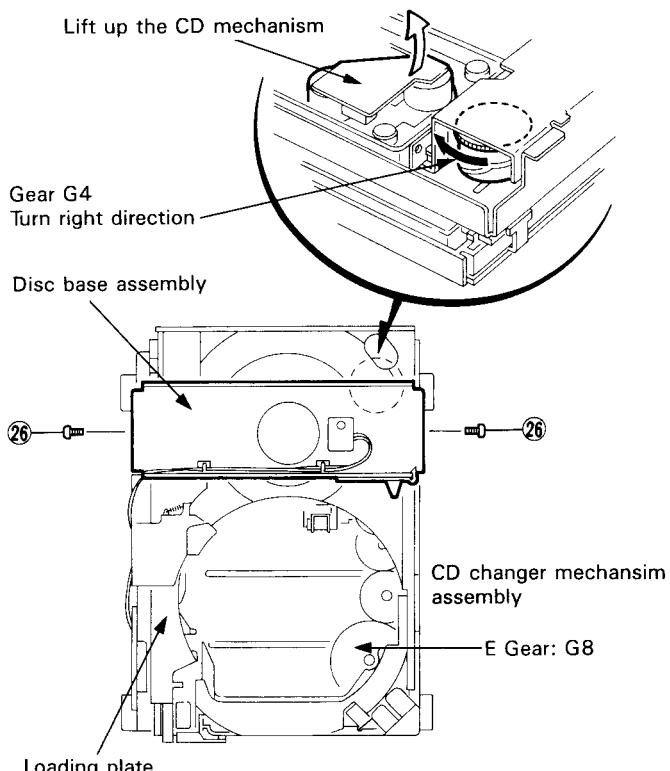
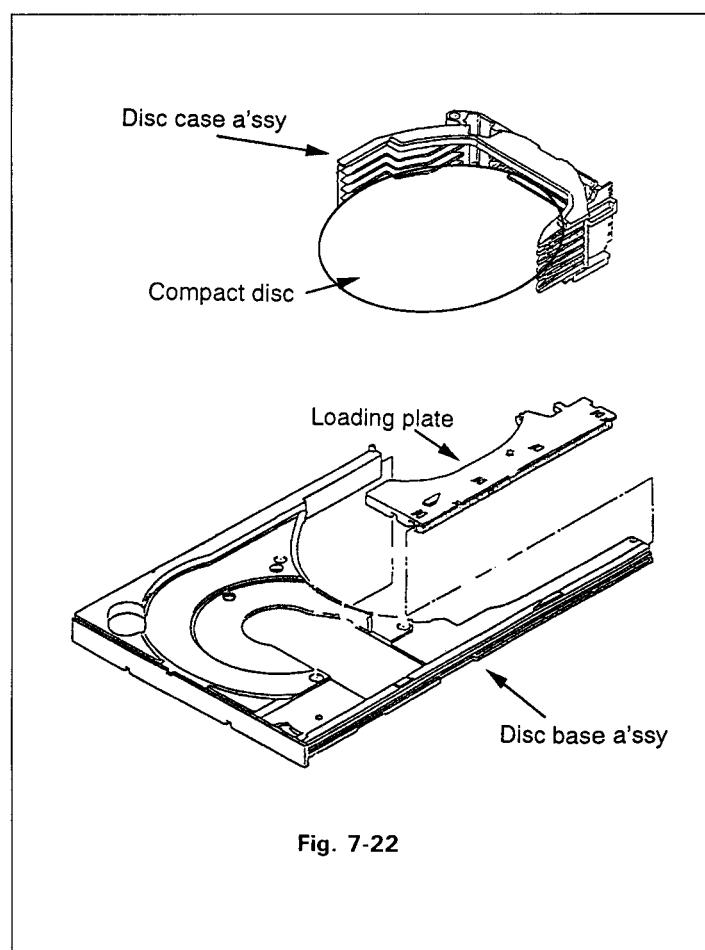

Fig. 7-21
Fig. 7-22
■ Method of removing the clamper base assembly (Refer to Fig. 7-21)
6. From the CD changer mechanism assembly, remove the two screws ②6 retaining the clamper base assembly.
- 2-1. Method of ejecting the compact disc on the disc base ass'y (Refer to Fig. 7-21).
- (1) Turn the gear G4 clockwise and lower the CD mechanism.
- (2) When the loading plate is located at the rearmost position, move the plate to the front panel side (At this time, the compact disc will be set on the disc base ass'y by the loading plate).
- (3) By moving the disc base ass'y to the front panel side, take out the compact disc.
- 2-2. Method of ejecting the compact disc left on the disc case ass'y (Refer to Fig. 7-22)
- (1) Move the loading plate to the rearmost position.
- (2) Turn the E gear G8 counterclockwise, and move up the disc case ass'y into which any compact disc has been loaded.
- (3) While turning the E gear G8, align the first compact disc (the lowermost compact disc on the disc case ass'y) to its loading position to the loading plate.
- (4) After the loading plate onto which the first compact disc is loaded has been moved to the front panel side, pull out the disc base ass'y from the front panel side and take out the compact disc.
- (5) Eject the second through sixth compact discs as well similarly according to the procedures in Items 1 through 4. Whenever the second and subsequent discs are to be ejected, however, align the compact disc to be ejected to the height of the loading plate.